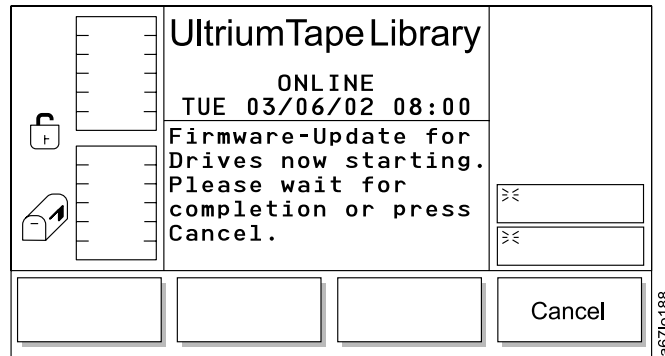

Figure 138. Firmware Update Dialog
- If **OK** is selected, the Firmware Update Dialog displays (see Figure 138 on page 121).
**Firmware Update Dialog:** When **OK** is selected from the Firmware Update Dialog, the firmware migration process begins (see Figure 138).